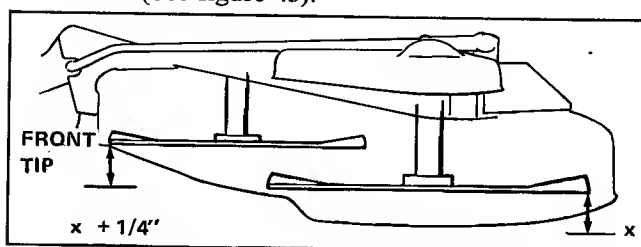

Figure 43. Leveling 42" Mower
3. Measure the distance from the front tip of the center blade to the ground, and note that measurement. (See figure 43).
4. Measure the distance to the ground from the rear tips of the left and right blades. Compare these measurements with the measurement from the front tip of the center blade. The front tip of the center blade should be 1/4 inch (6 mm) higher than the rear tips of the side blades (figure 43).